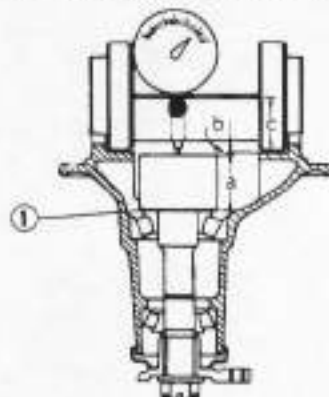

Fig. 16-21-3
- 4) Referring to Fig. 16-21-3, note that three dimensions are involved: "a" "b" and "c". The value of "b" is unknown, and is to be determined now for calculating the required thickness of shims. The values of "a" and "c" are given: the sum, "a" + "c", is 94 mm, which is indicated on the dummy tool.
5) Shim stock is available in twelve selective thicknesses. Select one or two shim(s) from the below to obtain the closest thickness to above required thickness, and insert selected shim piece(s) into clearance indicated as Fig. 16-21-3-①.